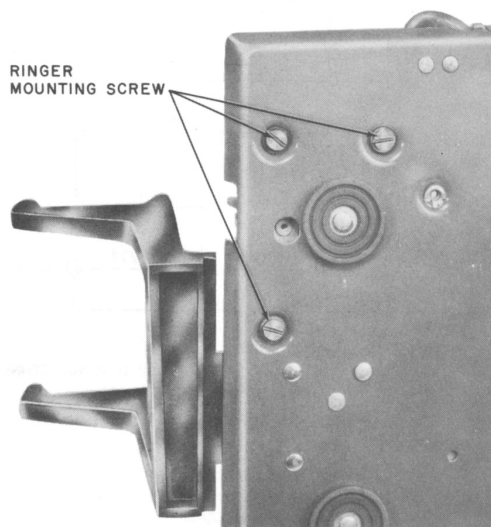
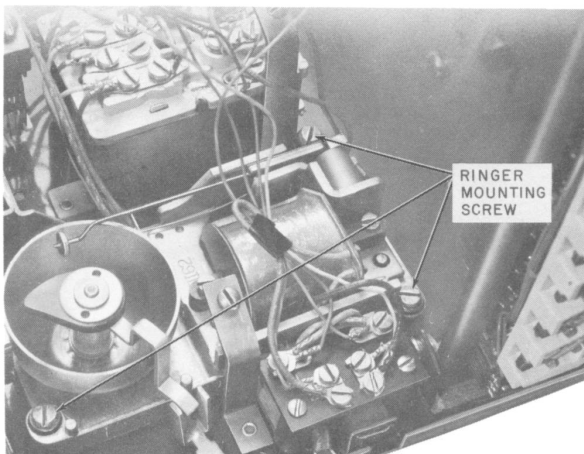

Fig. 9—Location of Ringer Mounting Screws for N1A Ringers
Fig. 10—Location of Ringer Mounting Screws for D1-Type Ringers
- (1) Remove housing.
- (2) Loosen dial mounting plate and move to left.
- (3) Disconnect ringer leads.
- (4) Remove N1A ringer mounting screws from underside of baseplate (Fig. 9) or loosen captive screws of D1-type ringers (Fig. 10)
- (5) Lift out ringer.